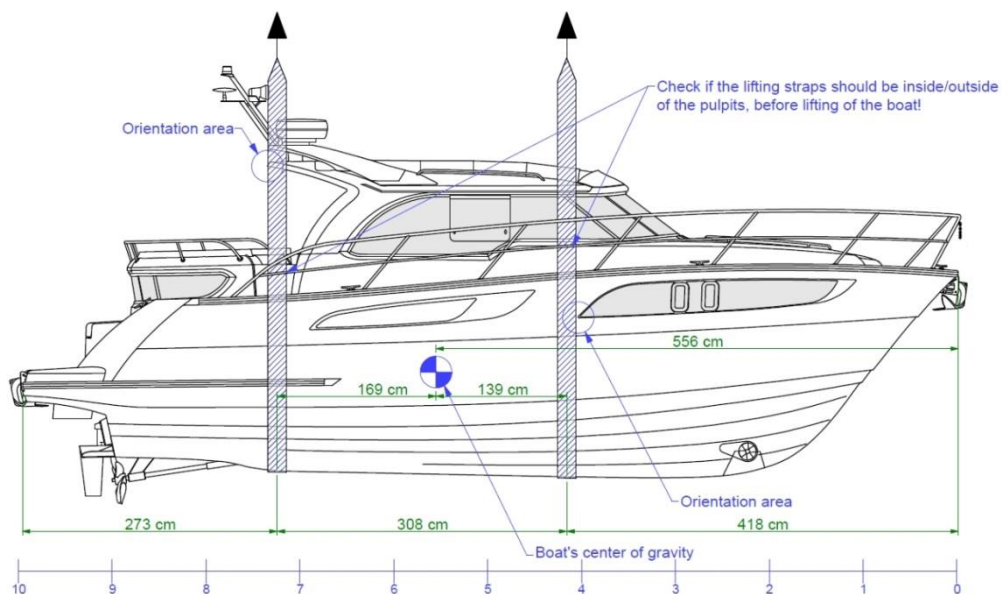

Figure 17: Place of the lifting straps
- ✓ Like shown on the figure 17.